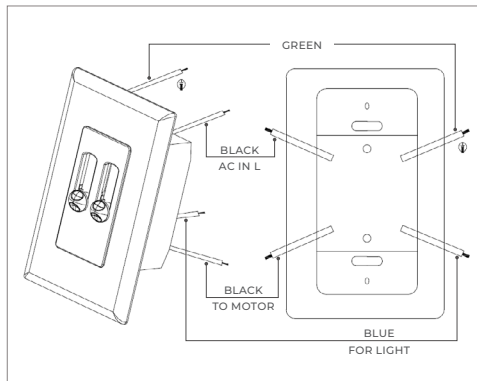

FIGURE 1
D) Installation of this control requires that a three-conductor cable with ground wire be run between the WS wall control electrical box and the ceiling fan junction box. (Figure 1)